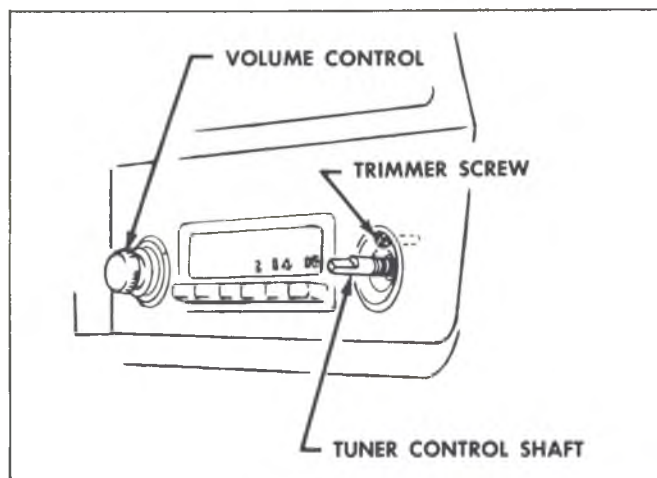

Fig. 1--Trimming Radio
6. Adjust the antenna trimmer screw ( $\pm 2^\circ$  screw rotation) until maximum volume is received (fig. 1).